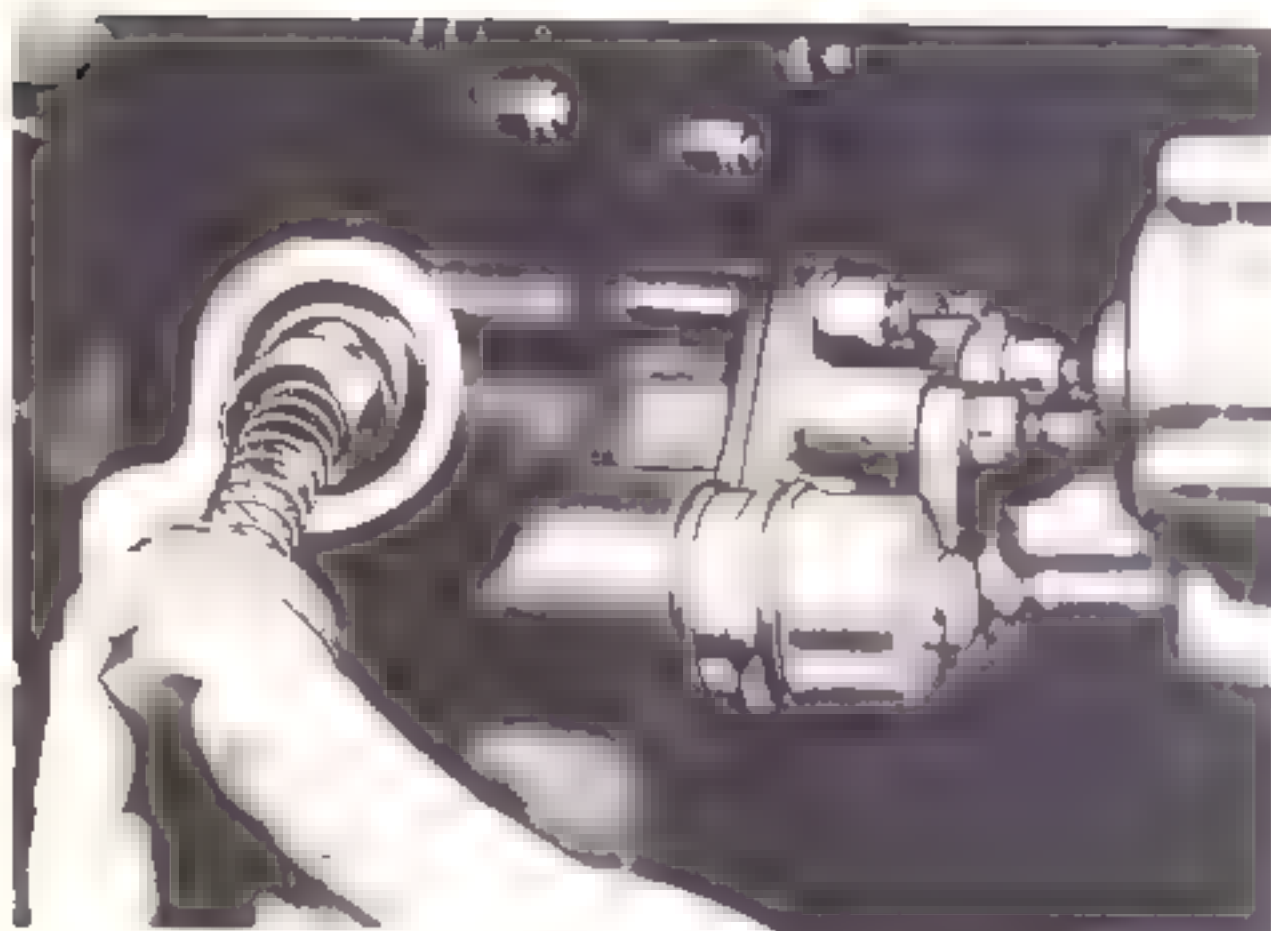

Figure 5-53. Removing valve retainer with spring
a. Removal. (1) Remove lock wire and remove valve retainer from rear oil pump housing. Hold valve retainer firmly so that loading from spring will not cause it to snap out as last thread is disengaged, if spring has not been previously removed. (See figure 5-53.)
(2) Remove gasket from valve retainer and discard gasket.
(3) Remove spring, if installed, from valve, and carefully slip valve from valve body. Discard spring.
(4) Remove ring from valve and discard ring.
b. Cleaning. (1) Clean all components of check valve with solvent (item 4, table 1-8).